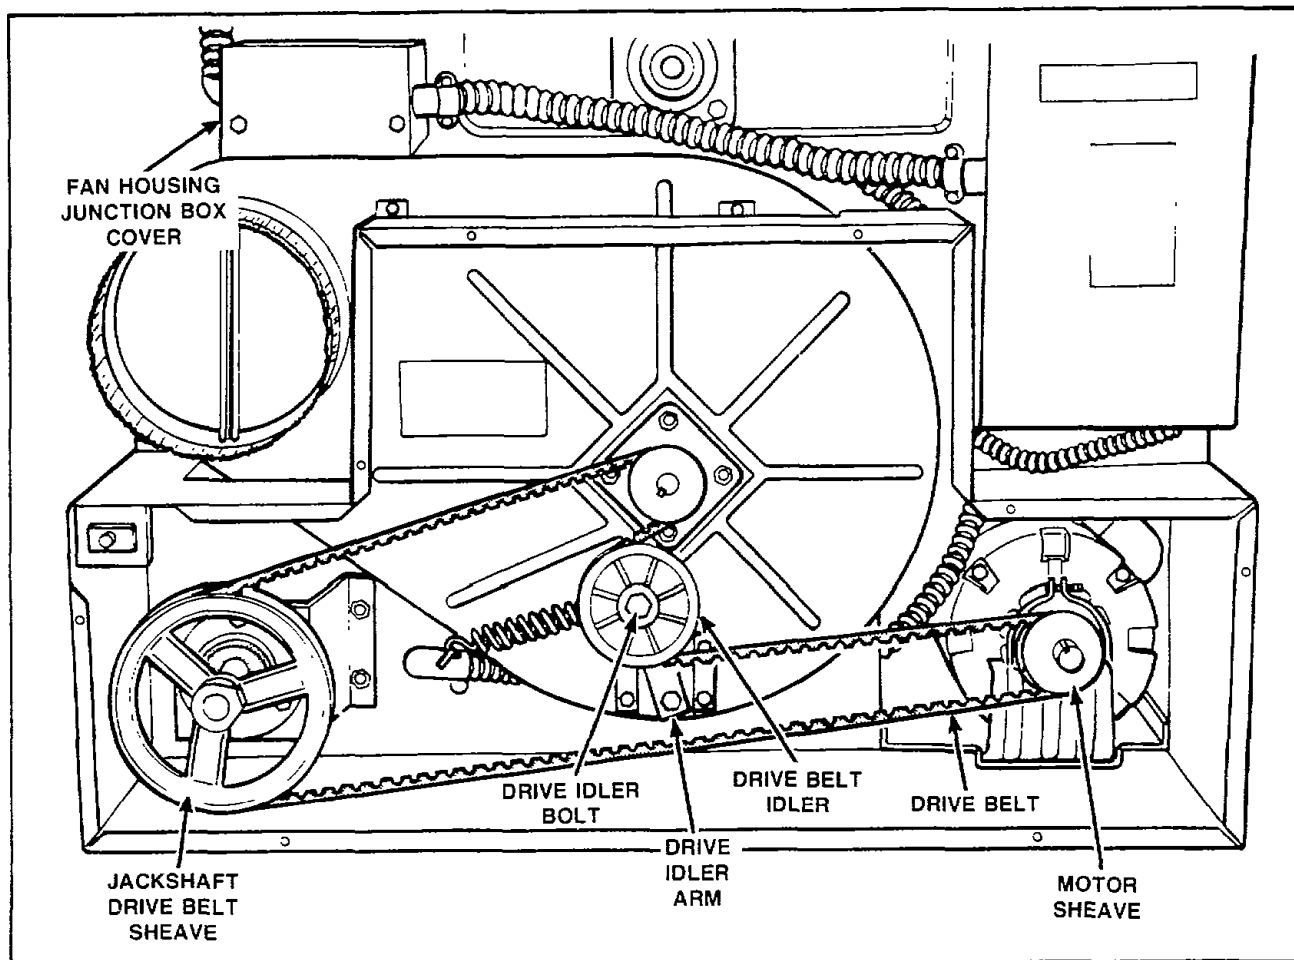

Figure 29
c. Run belt off sheaves and idler. *Figure 29*
- c. Run belt off sheaves and idler. *Figure 29.*
### 32. DRIVE IDLER (*Figure 29*)
- d. Run drive belt off sheaves and idler, *Figure 29*.